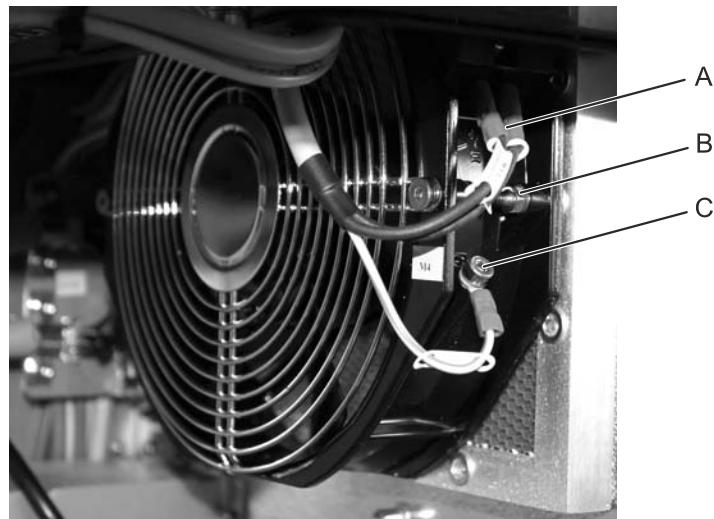
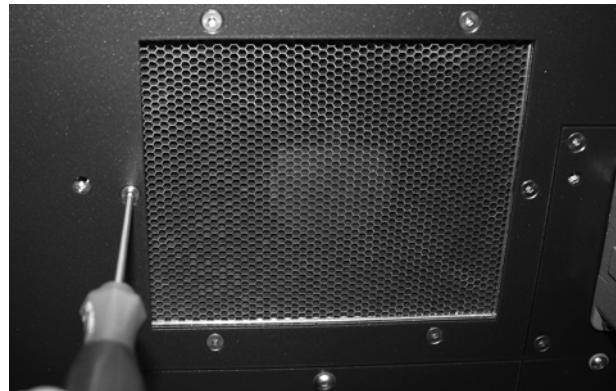

Figure 96: Exhaust fan electrical connections and securing nut
Figure 97: Unscrewing the exhaust fan
3. Disconnect the electrical connections (see Figure 96, A) from the exhaust fan.
4. Use the 3 mm allen key to loosen the ground connection from the exhaust fan (see Figure 96, B).
5. While holding each of the two securing nuts (see Figure 96, B) with the 7 mm wrench, use the 2.5 mm allen key to unscrew the screws on each side of the exhaust grille (see Figure 97).